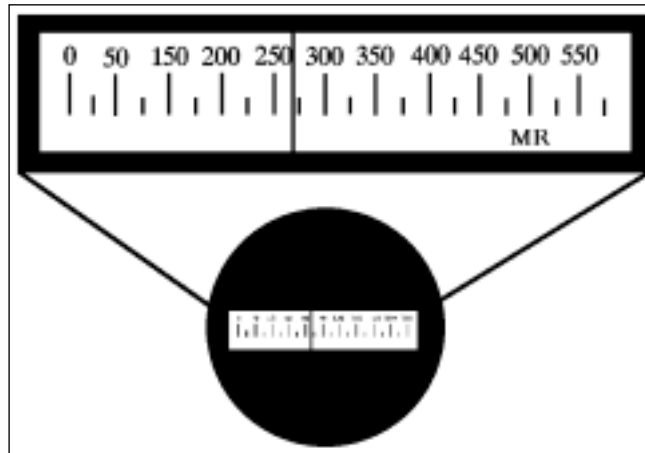

Fig 2-2. Range scale of the IM-143/PD.
2. Range of 0 to 600 cGy (600 RADS) full scale (fig 2-2).
- (2) PP-4276/PD RADIAC detector charger. Use this instrument to
- Zero dosimeters. To get an accurate reading, you must reset the scale to 0 before each mission (fig 2-2).